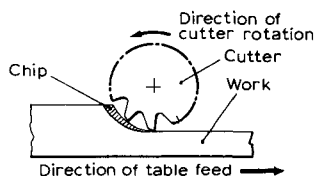

Fig. 4.223 Downcut milling
2. *Downcut or climb milling*, Fig. 4.223. This method has the advantage that the teeth cut downwards and hence there is no tendency to lift the work. It should, however, be avoided unless the machine is fitted with a special feed screw and nut to avoid backlash.